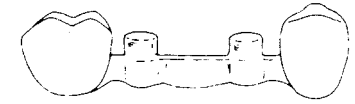

Fig. 18
4. Blockout all undercuts and fill the cylindrical blockout sleeve to the top with wax. Pre-relieve the bar with 16 or 18 gauge wax. This will provide a space for insertion and removal (Fig. 18).